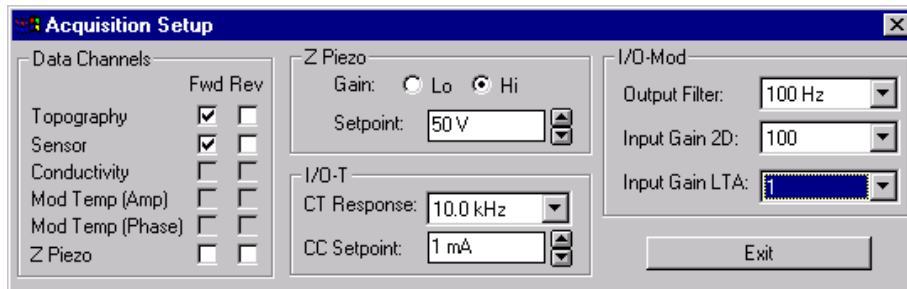

Figure 3.21
- Select **Options/Acquire** from the menu bar to open the **Acquisition Setup** window. Then select the following settings (as also shown in Figure 3.21):
1. Select **Options/Acquire** from the menu to open the **Acquisition Setup** window (see Figure 3.21); then check the **Conductivity (Fwd)** and **Sensor (Fwd)** boxes.